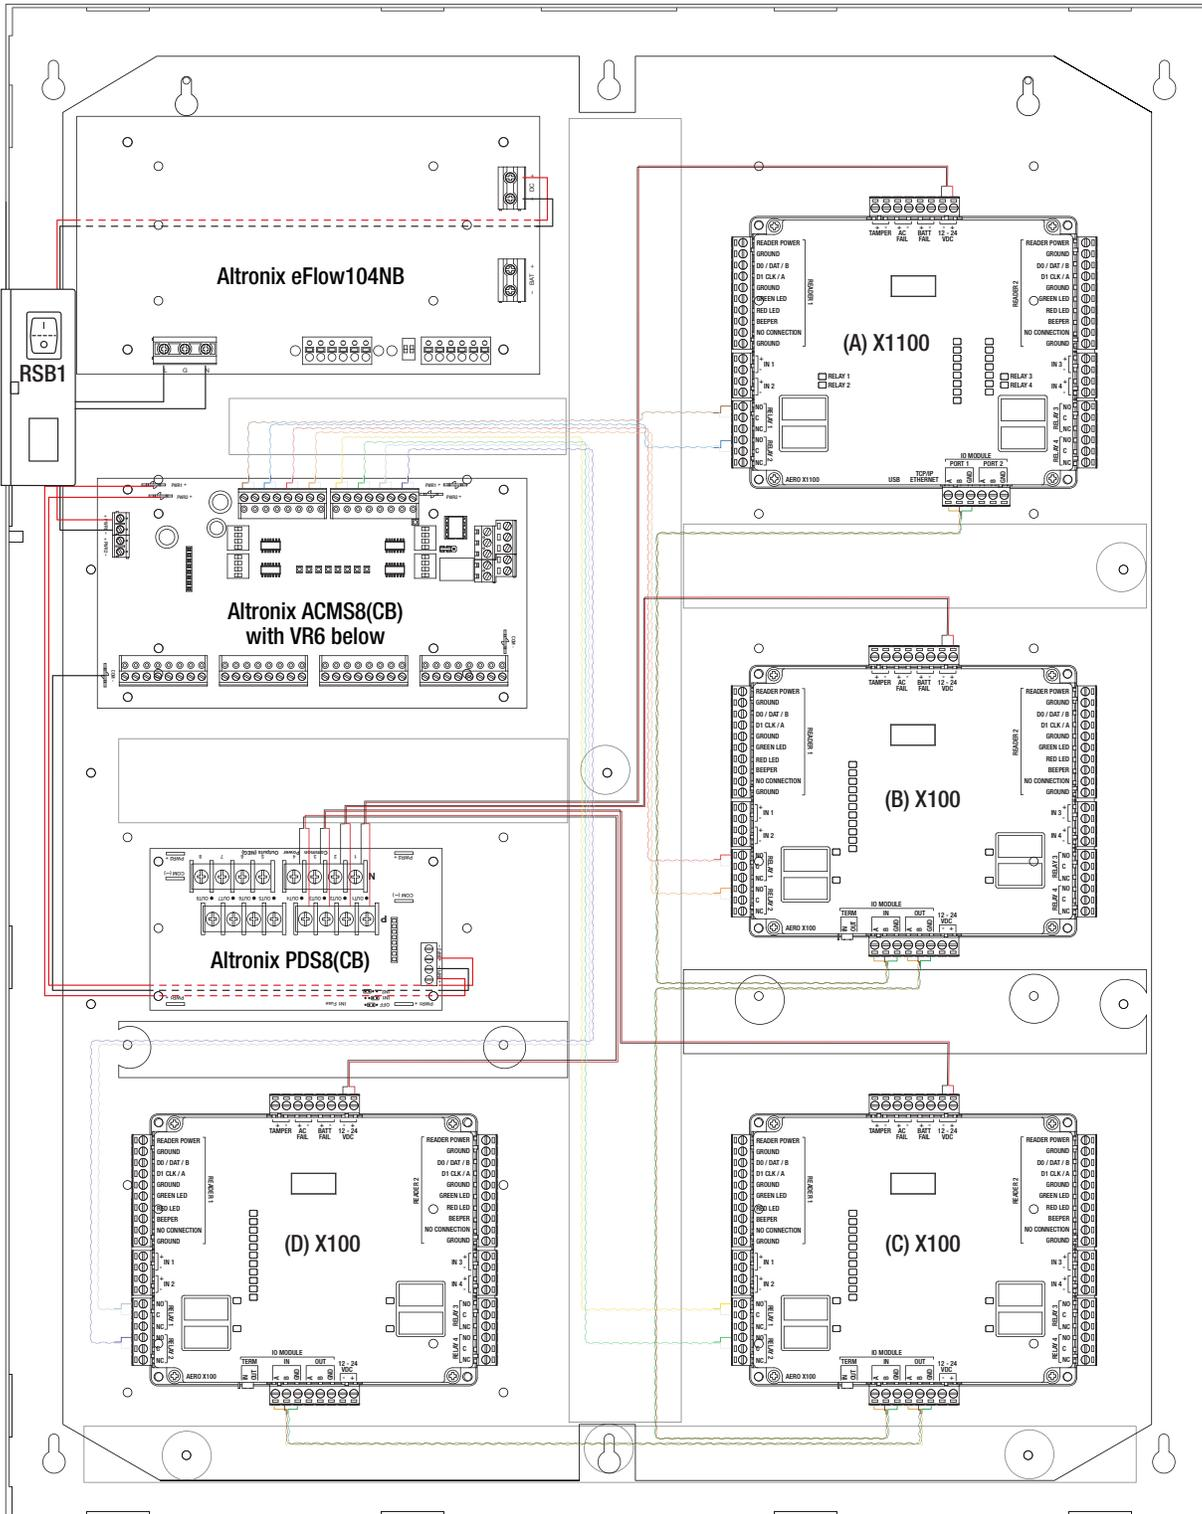

Fig. 2
1. Fasten spacers (provided) onto metal pems configuration (A), (B), (C), (D) of backplane (Fig. 2, pg. 3).